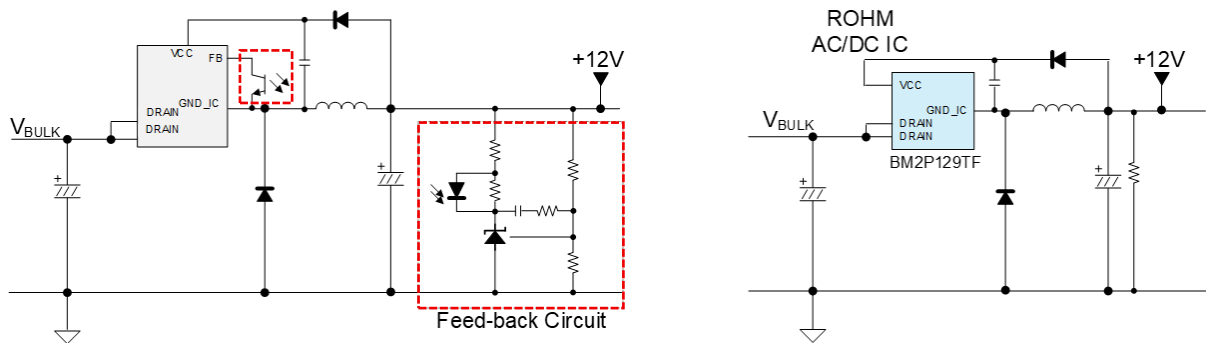

Figure 20. Schematic Comparison (Competitor's variable output voltage type vs. BM2P129TF)
- **Significant Reduction in Peripheral Components:** When using an equivalent product from a competitor that features a variable output voltage, many peripheral components (resistors, capacitors, and diodes) are required for voltage setting and phase compensation. In contrast, since this IC is a "fixed output voltage type", these external components can be eliminated. As shown in Figure 20, by adopting this fixed-output voltage type IC, the peripheral components surrounded by the dashed box in the left figure can be omitted, allowing for the construction of a very simple power supply circuit.